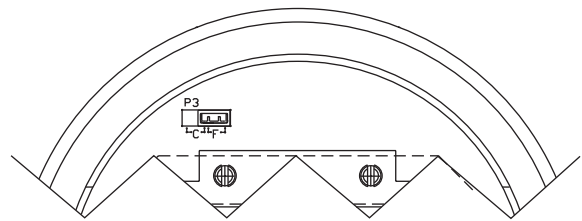

FIGURE 4
**Display:** The temperature indicated on the display, if equipped with the LCD option, is field selectable via a jumper located on the circuit board just above the display. To change the jumper position, remove the housing cover and position the jumper for  $^\circ\text{F}$  or  $^\circ\text{C}$  according to Figure 4.